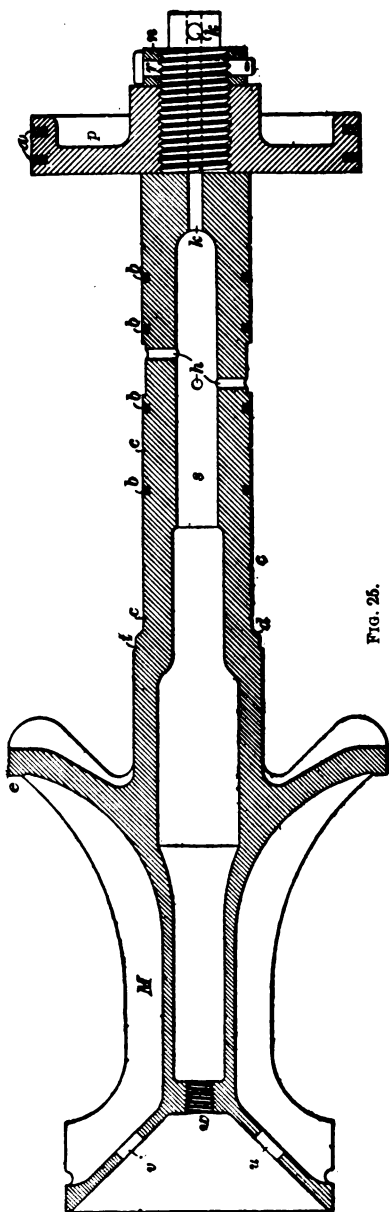
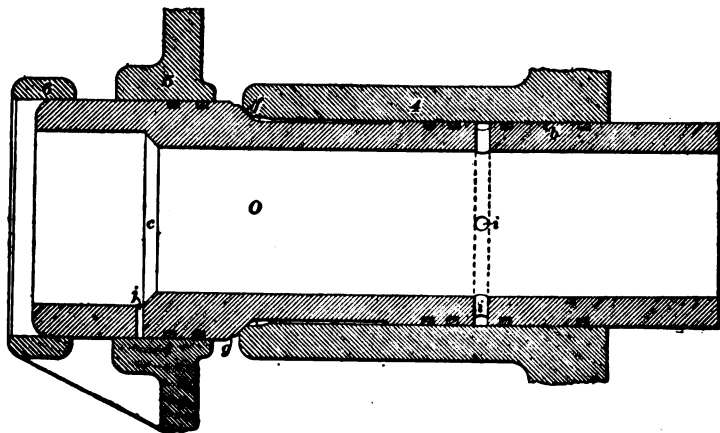

FIG. 25.
FIG. 26.
**57. Details of Intercepting Valve.**—This valve, sometimes called the *automatic starting valve*, is shown in section in Fig. 25. The piston *p* screws on to the valve stem *s*, and is held in position by the nut *n* and cotter pin *r*; also, the piston is fitted with two packing rings *a*. The valve stem *s* is fitted with four packing rings marked *b*, and water-packing grooves marked *c*. A shoulder *d* is beveled at an angle of  $45^\circ$ , and forms a steam-tight joint on the seat *c* on the inside of the valve *O*, Fig. 26. A groove *t* is cut in the shoulder *d*, the purpose of which will be seen later. The end *e* of the valve *M* is finished so as to make a steam-tight joint with its seat. It will be noticed, also, that two  $\frac{3}{4}$ -inch holes *u* and *v* are drilled through the small end of the valve, and a steel plug is screwed into the end at *w*. The object of the holes *u* and *v* is to insure receiver pressure in chamber *b*, to assist in balancing the valve *M*, during the time it is in compound position. The plug *w* is intended merely to
**58. Details of Reducing Valve.**—The reducing valve *O* is shown in section in Fig. 26, in which the parts marked *4*, *5*, and *6* correspond to the parts similarly marked in Fig. 27. This valve, as has already been remarked, is in the form of a cylindrical sleeve, the inside diameter of which is just large enough to allow the sleeve to slip freely over the valve stem *s*. The sleeve is fitted with six packing rings and a water-packing groove *b*. The shoulder *c* is beveled at a 45° angle, and fits
the main exhaust passage *F*, thus removing, practically, all the pressure from that face of the intercepting valve *M* that is in chamber *b*. The combined pressures of the steam in chamber *I* on the small end of the valve *M*, together with that of the steam in chamber *L* on the shoulder *g*, Fig. 26, of the sleeve, is then great enough to overcome the pressure of the steam in chamber *I* on the large end of the valve *M*; consequently, if the valves are not already in their simple positions, they will be moved there. When the valves have assumed their simple position, Fig. 30, live steam passes through the reducing valve and passage *R* into the low-pressure steam chest, while the exhaust steam from the high-pressure cylinder flows directly into the atmosphere through the receiver, emergency valve *N*, emergency exhaust port *c*, the main exhaust passage *F*, and the exhaust pipe, as indicated by the arrows. As long as the handle of the operating valve is left in the position marked *simple*, the engine will work as a simple engine; but, when it is turned to the position marked *compound*, the pressure in pipe *f* and chamber *x* is removed, and the pressure of the exhaust steam against the back head of the valve *N*, together with the action of the spring, causes the valve *N* to close. This closes the only outlet from the receiver; hence, the exhaust steam from the high-pressure cylinder raises the pressure in the receiver until it is sufficient to open the intercepting valve, and thus automatically converts the engine into a compound.